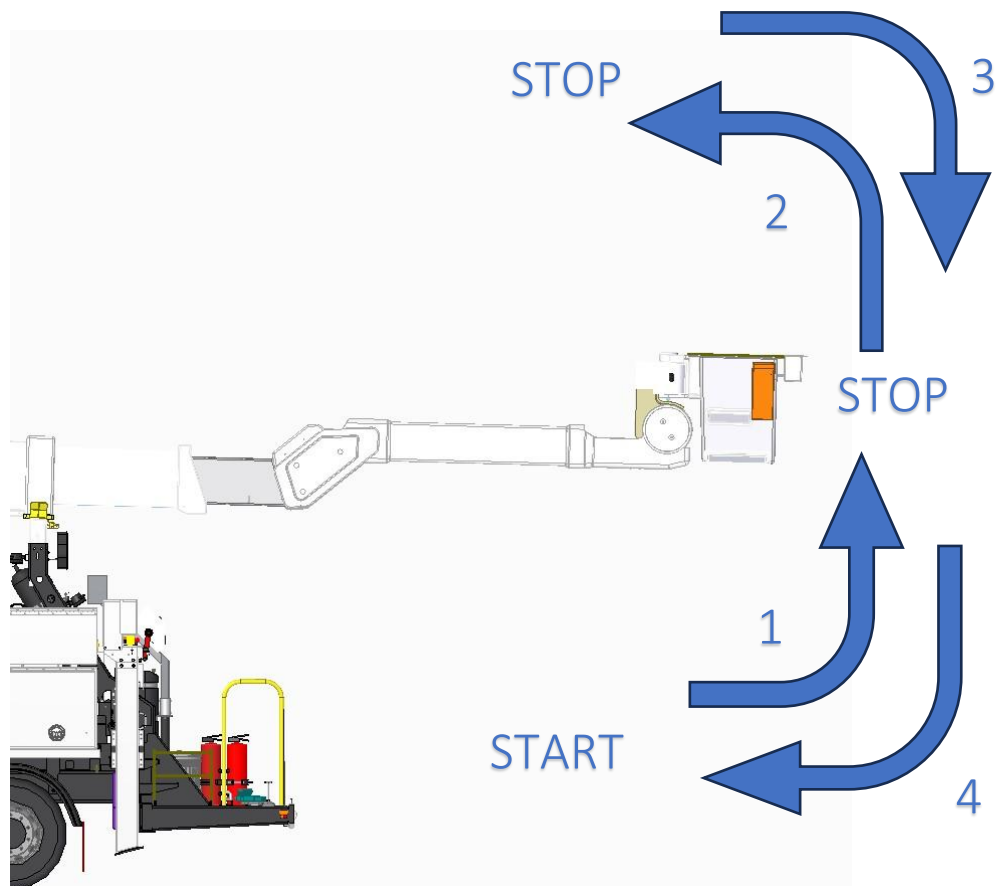

Figure 5 - Half Envelope Motion diagram
- 1.5.2 Half Envelope motions – *Sudden* stop: i.e. raise from stow position to halfway (fly boom horizontal), stopping suddenly (motion 1). Then continue raising until fully raised (motion 2). Lower from fully raised to horizontal and stop suddenly (motion 3). Finally, lower from horizontal to stow (motion 4). See Figure 5 below.